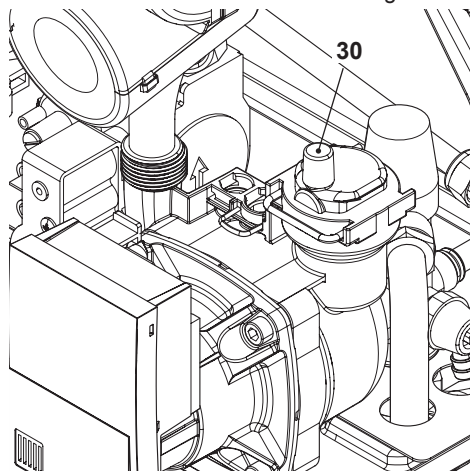

Fig. 10.11
- To make draining easier, unscrew the plug 30 of the automatic relief valve in Fig. 10.11.